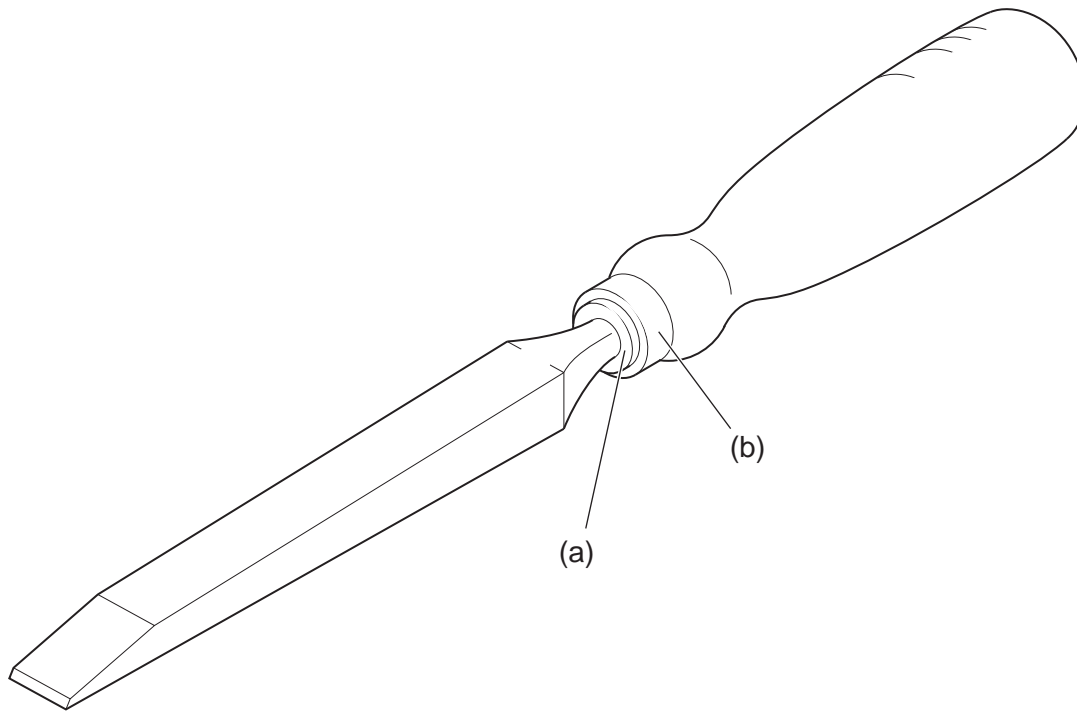

Fig. 8
- 9 Fig. 8 shows a chisel which is used for cutting joints.